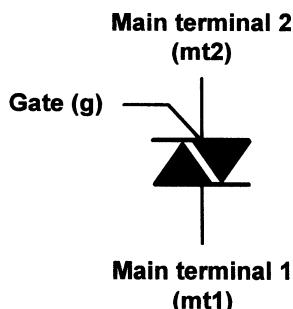

Figure 5.13 Triac connections
Triacs are a refinement of the thyristor which, when triggered, conduct on both positive and negative half-cycles of the applied voltage. Triacs have three terminals known as main-terminal one (MT1), main terminal two (MT2) and gate (G), as shown in Fig. 5.13. Triacs can be triggered by both positive and negative voltages applied between G and MT1 with positive and negative voltages present at MT2 respectively. Triacs thus provide **full-wave control** and offer superior performance in a.c. power control applications when compared with thyristors which only provide **half-wave control**. Table 5.6 summarizes the characteristics of several common triacs.